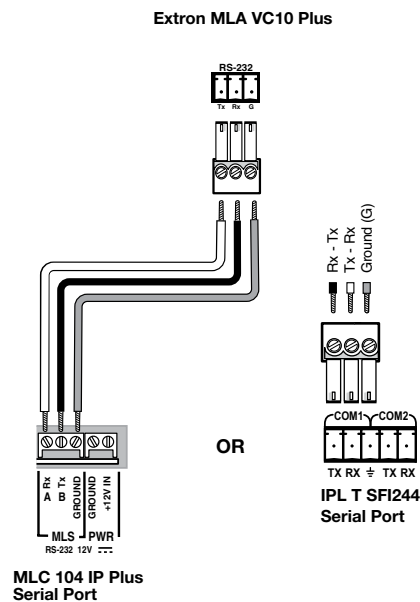

Figure 8. Connecting an Extron Control Processor to the MLA VC10 Plus
TIP: When connecting to a MediaLink control processor, Extron recommends using the MLS port, as shown in figure 8, although other serial ports may also be used.
2. Connect the Receive (Rx) socket of the MLA VC10 Plus to the Transmit socket (labeled “B”) on the MediaLink control processor (see figure 8 below).
3. Connect the ground (G) socket of the MLA VC10 Plus to the ground socket of the MediaLink control processor.
Figure 8 also shows how to connect the MLA VC10 Plus to COM port 1 of the IPL T SFI244. Connecting to other IP Link control processors is very similar.